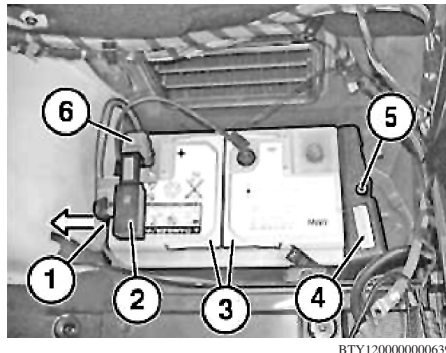

Fig. 4 Battery removal
8. Detach vent (1) in direction of arrow, **Fig. 4.**
9. Loosen nut (6) and detach positive battery terminal (2), then lay to one side and secure, **Fig. 4.**
10. Release threaded pin (5) and remove holder (4), **Fig. 4.**
11. Fold back both bar fasteners (3), pull battery towards rear out of battery tray, and lift out battery, **Fig. 4.**
2. Install both bar fasteners (3), **Fig. 4.**
3. Install battery retaining bracket (4) and threaded pin (5), **Fig. 4.** Tighten as required.
4. Connect positive battery terminal (2), **torque** terminal nut to 44 inch lbs., and replace cover (2), **Fig. 4.**
5. Connect battery vent hose (1), **Fig. 4.**